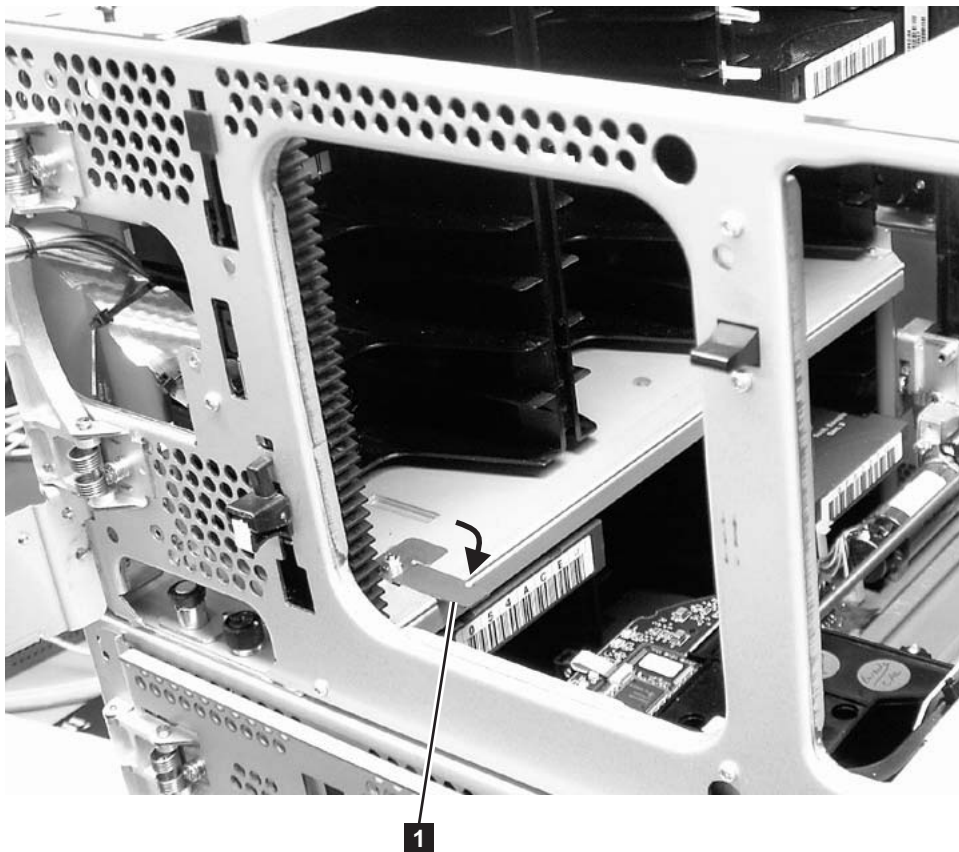

Figure 8-11. Picker assembly locking mechanism
5. Manually raise the picker and disengage the picker locking mechanism (**1** in Figure 8-11) if necessary. If the gear racks are properly aligned, the picker will slowly move to the bottom of the library.